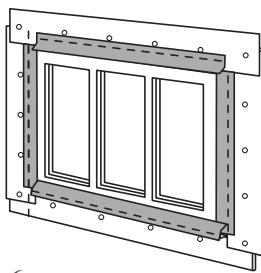

Fig. 6
*Option 2: Existing window casings removed.* Shim outside edge of window jamb flush with subwall prior to siding installation (allow for thickness increase of added structural or insulating sheathings). Cut Window and Door Surround recessed starter strip to the length and width of the inside edge of the jabs. Install starter with the nailing strip facing outward to all sides of the window (Fig. 6).
Cut Window and Door Surround recessed starter strip to the length and width of the recessed opening. Install starter with the nailing strip facing outward to all sides of the window recess as in Figure 6.